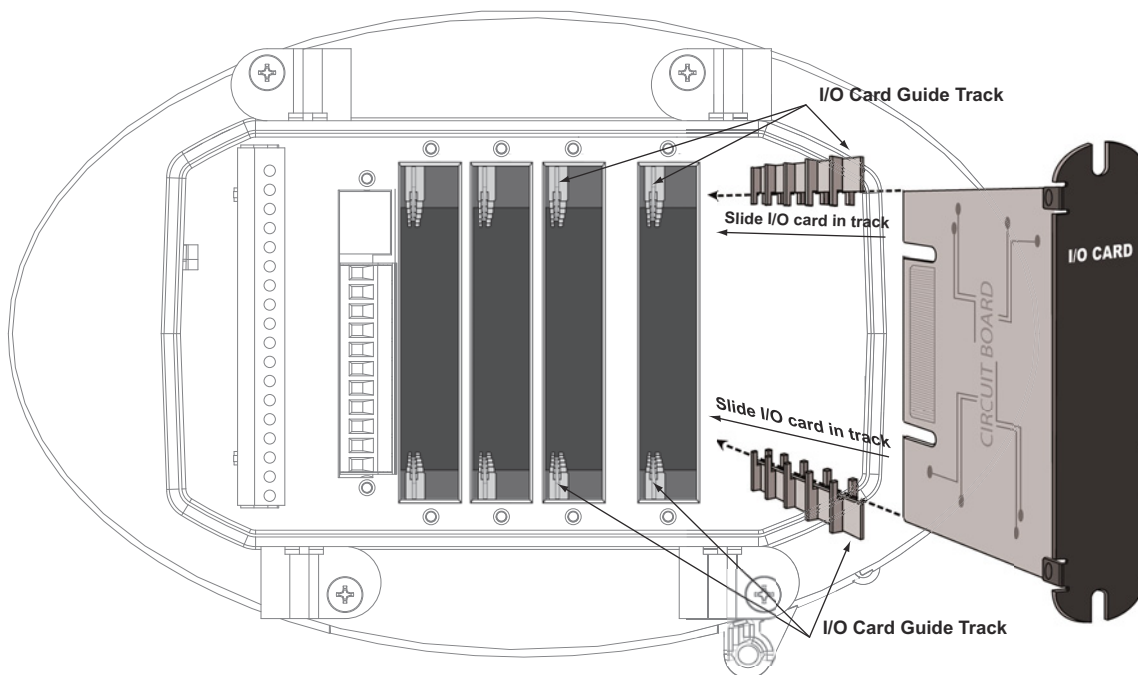

Figure 11.1: Inserting an I/O Card into the Meter
3. Slide the card inside the plastic track and insert it into the slot. You will hear a click when the card is fully inserted. **Be careful:** it is easy to miss the guide track. Refer to Figure 11.1.